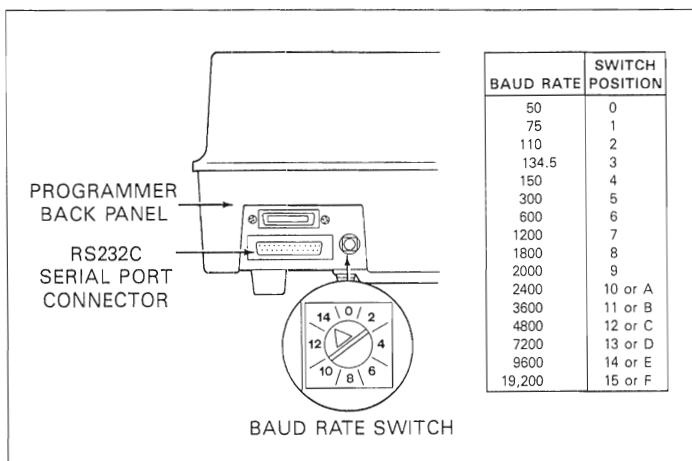

Figure 2-4. Selecting the Baud Rate on the Model 29
2. Set the programmer protocol to 9600 baud, 8 bits, no parity. Figures 2-4 and 2-5 show the switch settings for the Model 29 programmer. Consult your programmer manual or Appendix B.5 to achieve the correct setting for your programmer.